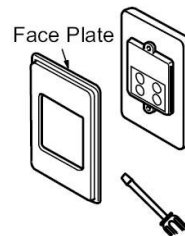

Fig. 3
4. Remove the face plate from the controller using a flat screwdriver (Fig.3). Take care not to damage the cover.